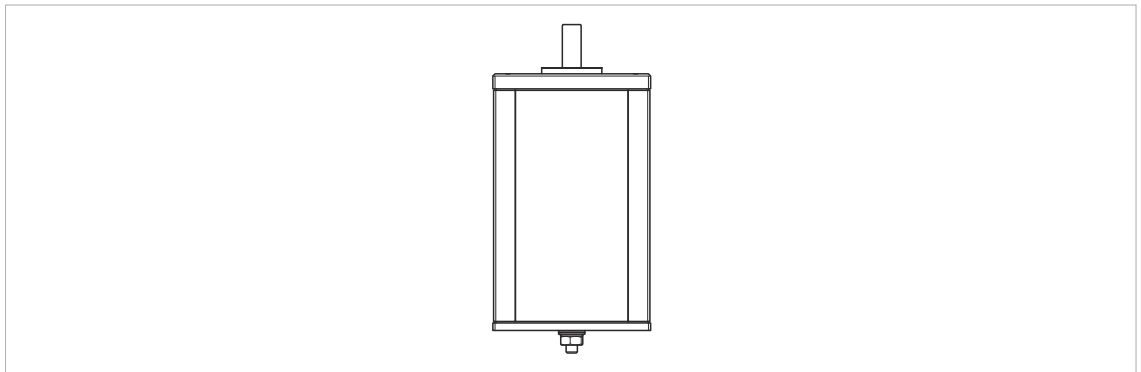

Fig. 7: V3 installation schematic diagram
- ▶ With V3 installation (see Fig. 7), make sure that no liquids can penetrate the bearings.